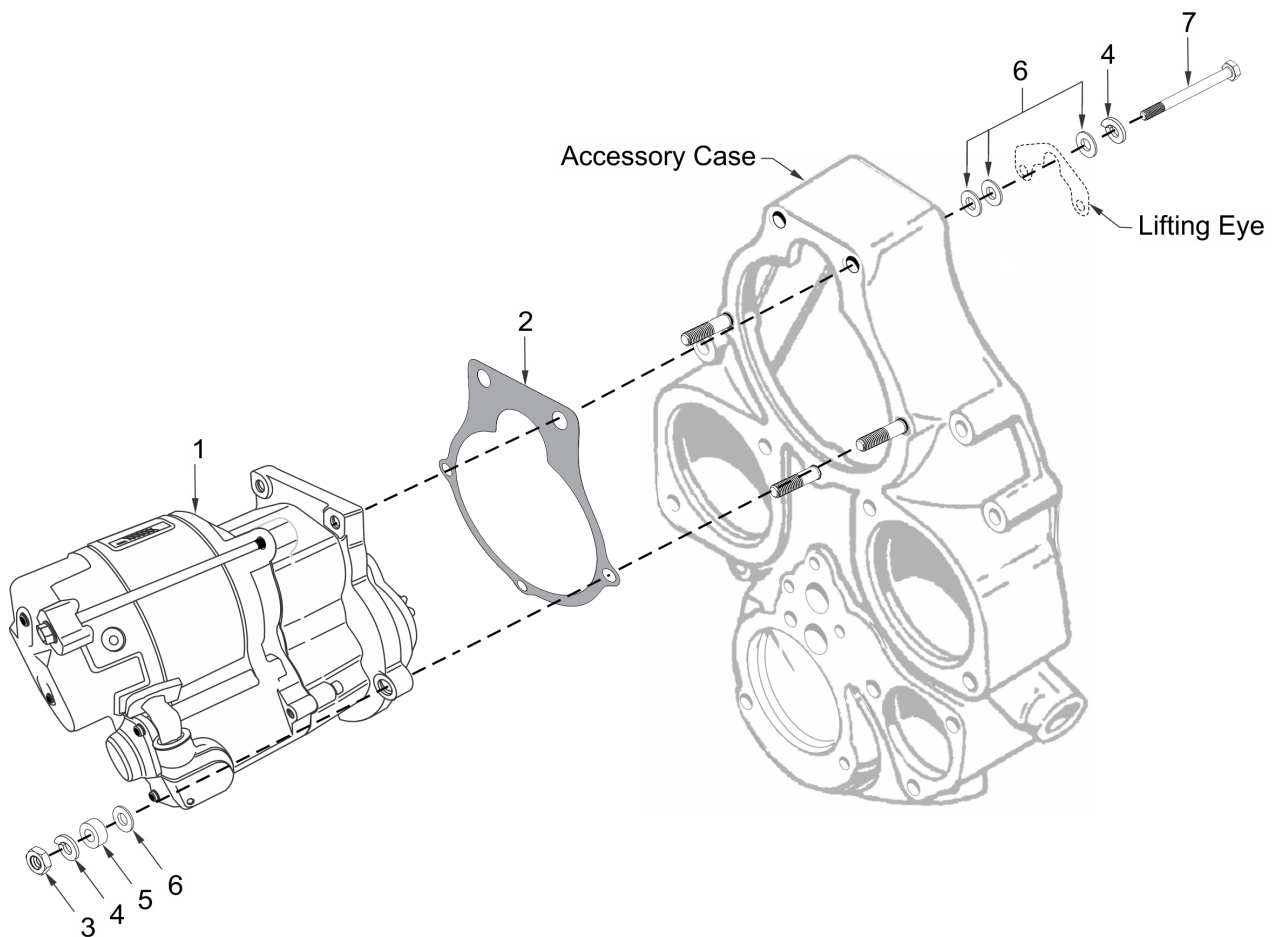

Figure 7. Installing New Starter Drive Assembly (typical)
1. Install a new starter gasket (Table 4, item 2) on the accessory case (see Figure 7).
2. Align starter assembly (1) with the accessory case studs and position the starter assembly so that the 3 o'clock stud extends through the housing sufficiently to install fasteners.
3. Place the washer (6), spacer (5), lock washer (4) and start the nut (3) onto the stud threads.
4. Seat the starter assembly (1) against the gasket (2) and install the remaining fasteners on the remaining case studs in a clockwise order. Do not tighten hardware at this time.
5. Secure the upper portion of the starter assembly (1) to the accessory case by installing two bolts (7), lock washers (4), lifting eye, and flat washers (6).
6. Torque nuts (3) and bolts (7) to 180-220 inch pounds of torque.